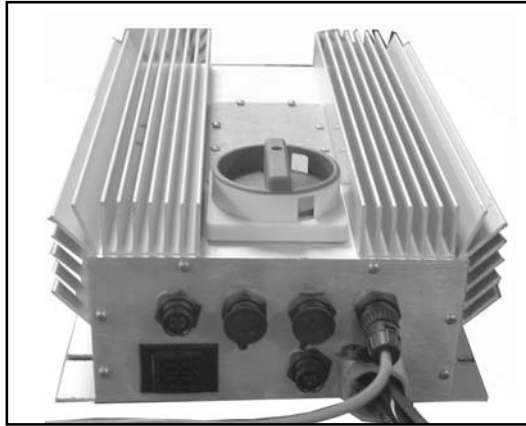

Figure 4
4. Place Light Cable coming from Relay Box into designated area on Power Module. See **Figure 4**.